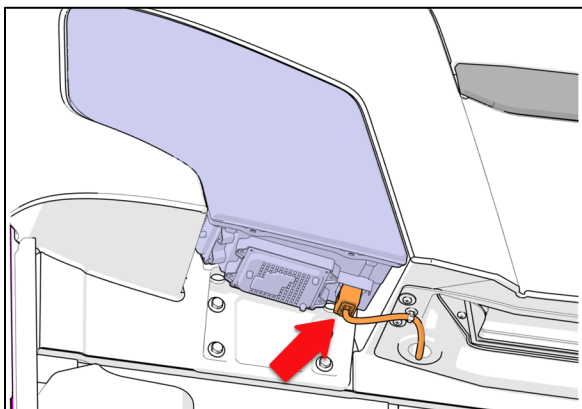

FIGURE 93
3. Unplug the connector (Figure 93).